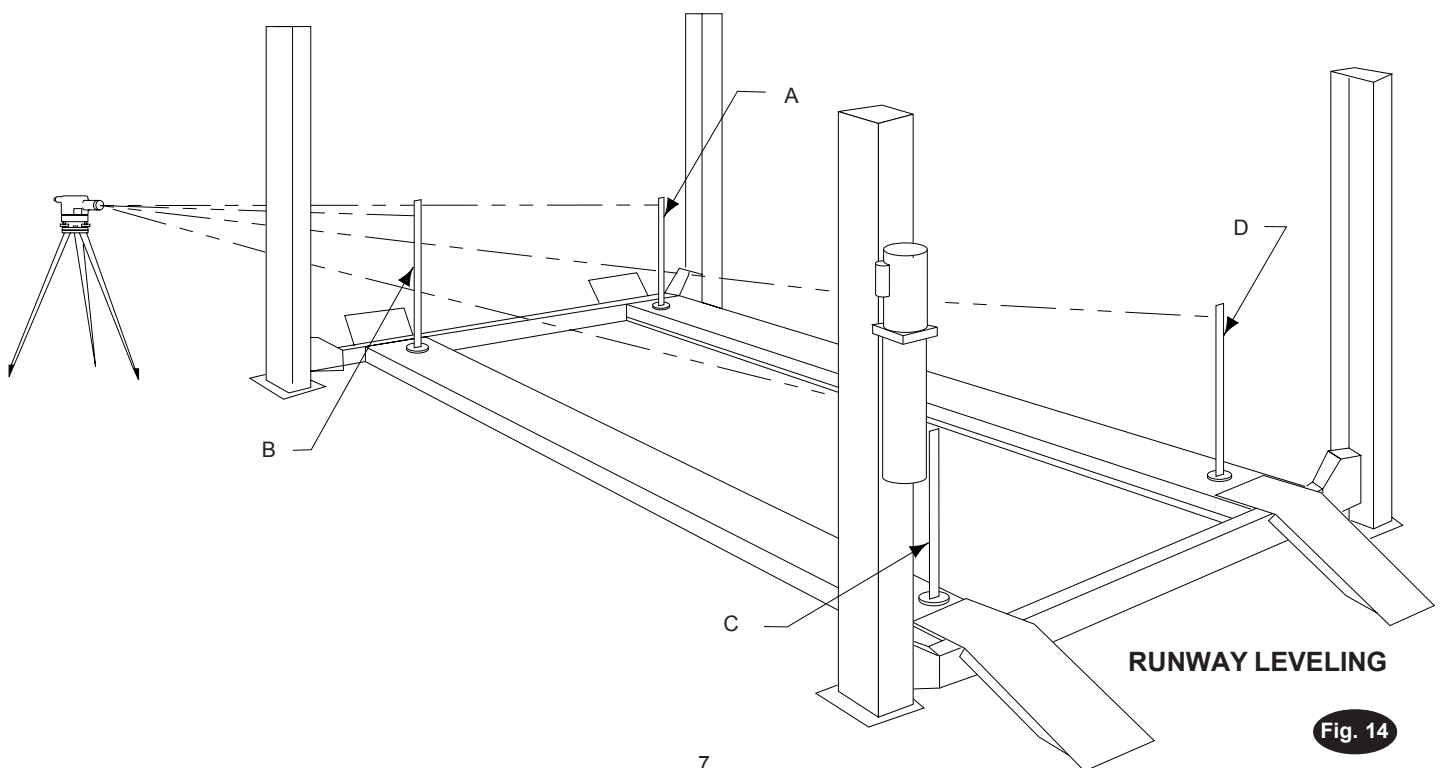

Fig. 14
C. First place the Level target at the highest corner of the lift. Place it on the runway center line within 6" of yoke tube, whichever one is located over highest point. This will be referred to as target "A" position. Beginning with target "A" position, Fig. 14, sight the Level to the target and mark the number or the graduation on the inch scale of the target that aligns to the crosshairs of the Level, Fig. 15.
- D. Next, move the target and place it on the runway at point "B", Fig. 14. Rotate the Level and focus on the target scale. Adjust the column at "B" using shims under base plate, Fig. 13, until the crosshairs of Level align to reference mark on the target scale. Repeat for points C and D.